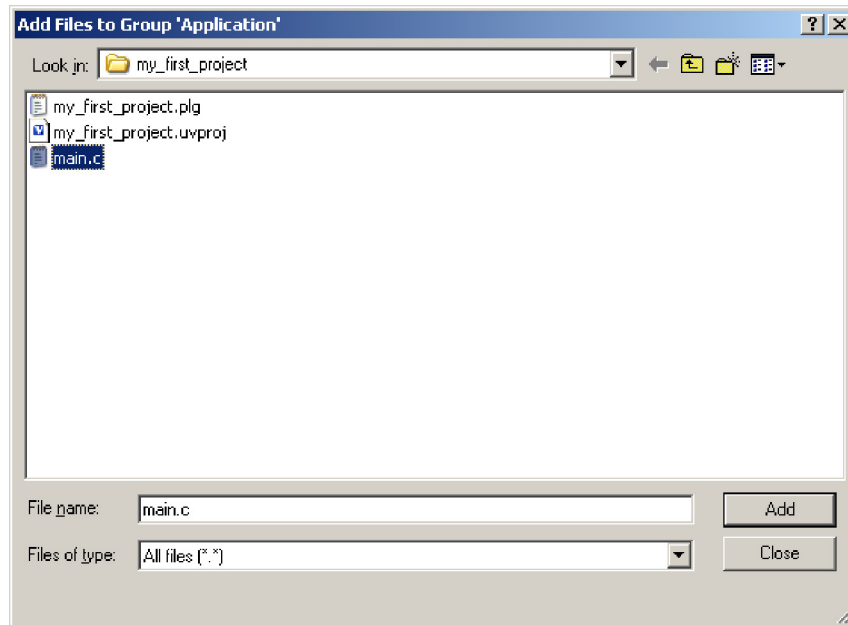

Figure 19. Creating a new file called main.c
4. Create a text file by right-clicking in the folder view and choosing **New text document** and renaming the created file to main.c. See Figure 19. This file will work as an entry point for your application.